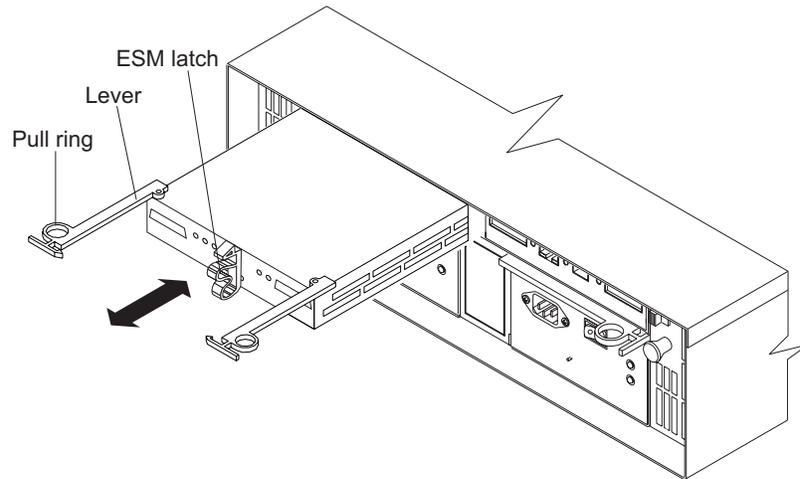

Figure 13. Removing an ESM
2. Remove the ESM from the bay, as shown in Figure 13.